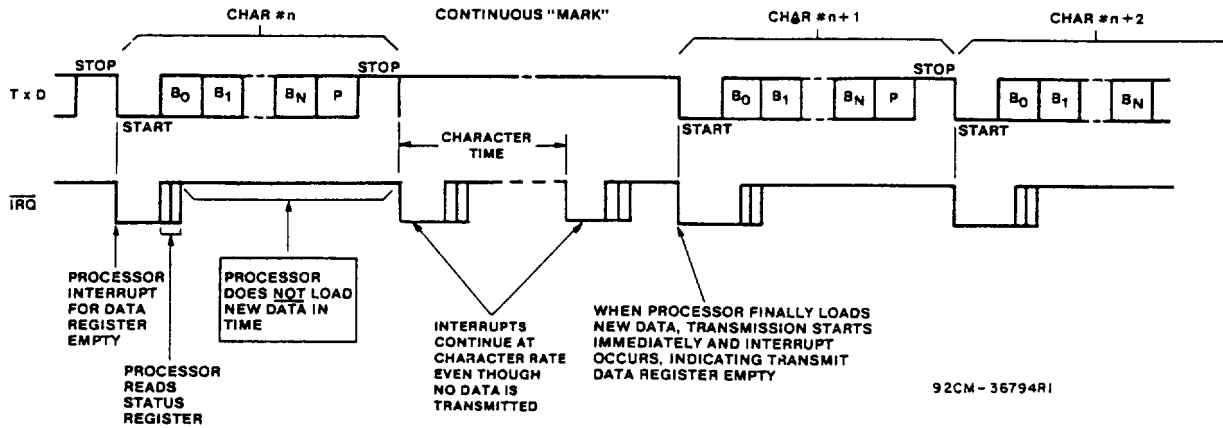

Fig. 9 - Transmit data register not loaded by processor.
**Transmit Data Register Not Loaded By Processor (Fig. 9)**